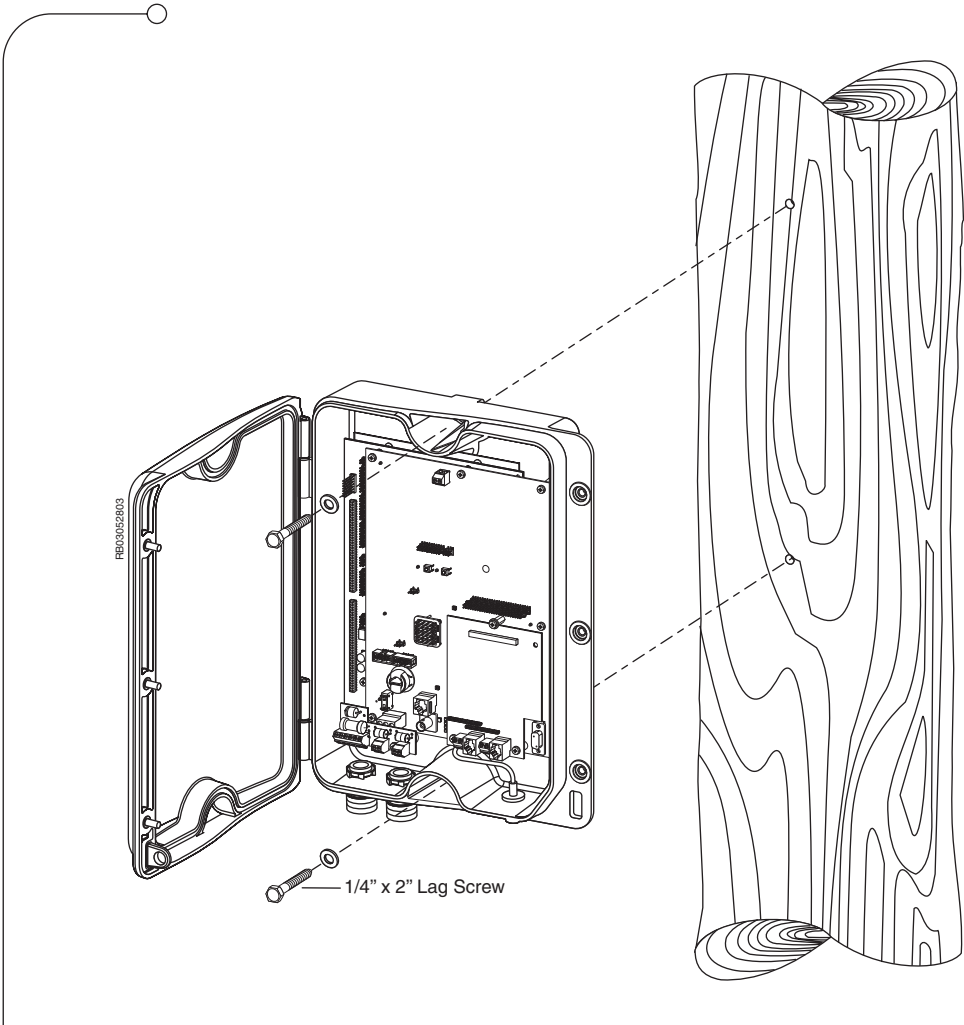

Figure 3.6 Mounting the STS on a Wooden Pole (or Wall)
1. Drill a hole in the pole using a 3/16" drill bit for the top lag screw of the STS, as shown in Figure 3.6 on page 35. If you are installing the STS on a wall, follow the installation instructions included with the wall anchoring hardware.